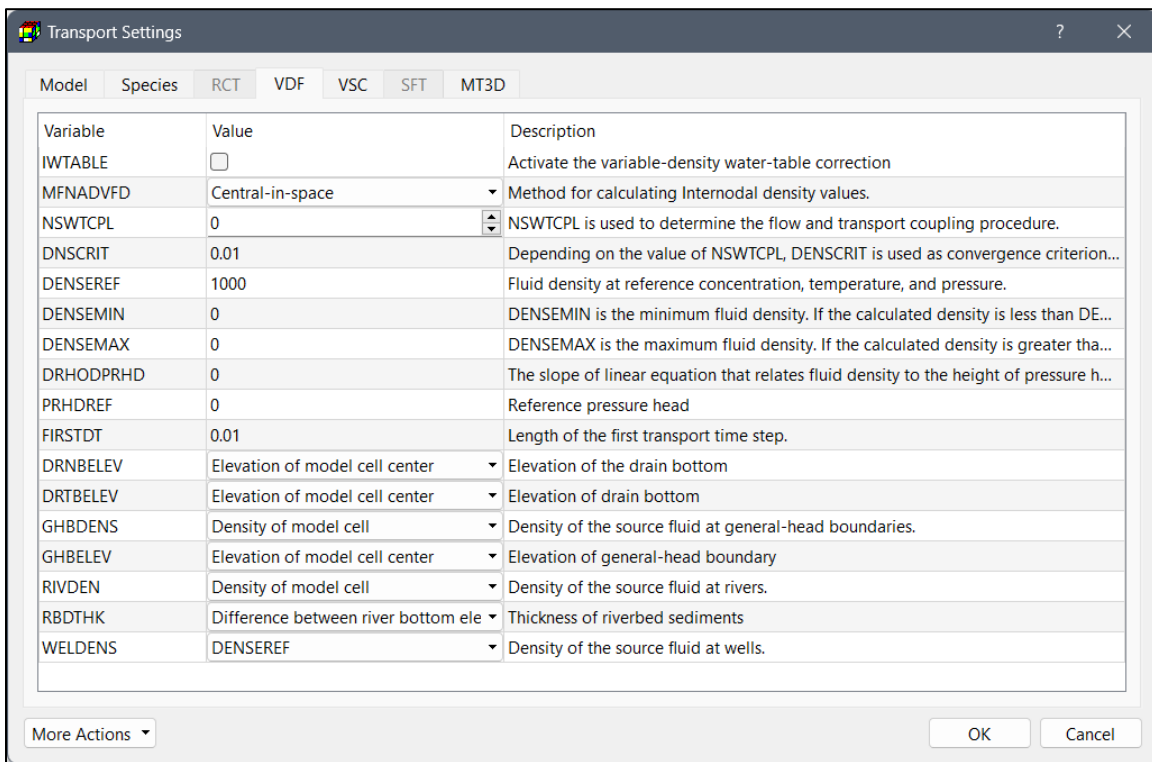

Figure 119. The VDF tab of the Transport Settings dialog box
- **Electron Donor (ED)** is the electron donor in the EA/ED reaction.
- **Electron Acceptor (EA)** is the electron acceptor in the EA/ED reaction.
- **Stoichiometric ratio (F):** F is used in the simulated equation as follows: $ED + F \times EA \rightarrow \text{Product}$.
5. **VDF Tab** (Figure 119) contains options for the Variable-Density Flow Process of SEAWAT.